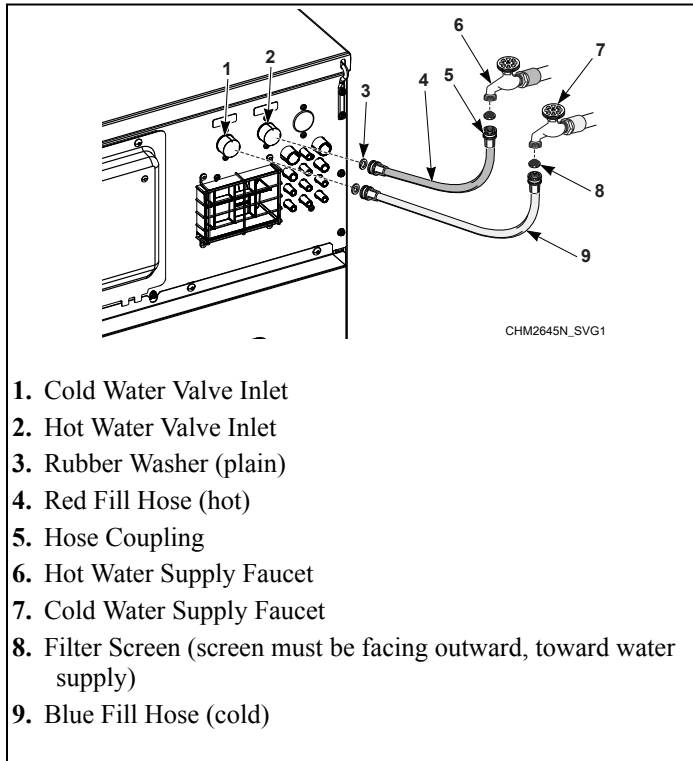

Figure 30
1. Before installing hoses, flush the building's water system at the machine connection valves for at least two (2) minutes.
2. Remove the two (2) plain rubber washers and two (2) filter screens from the accessories bag supplied with the machine.
3. Install one (1) plain rubber washer onto one end and one (1) filter screen into the other end of each fill hose. The screens must be facing outward toward the water supply. Refer to *Figure 30*.